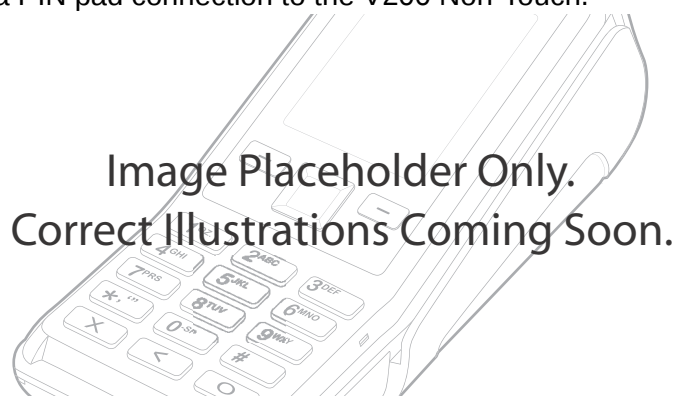

Figure 13 Sample PIN Pad Connection
- 3 Insert the larger RJ45-type connector on the other end of the PIN pad cable into the PIN pad serial port on the V200 Non-Touch. Figure 13 provides an example of a PIN pad connection to the V200 Non-Touch.